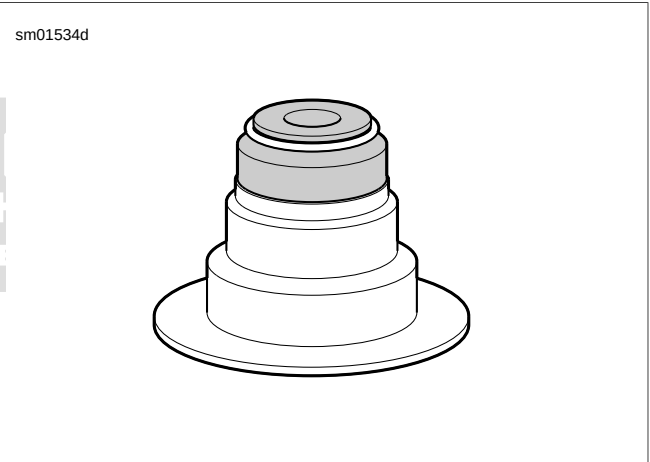

Figure 3-68. Valve Seal and Lower Valve Collar Assembly (seal and lower collar replaced as assembly only)
- See Figure 3-68. The valve seal is incorporated into the lower valve collar and is installed by hand. NO SPECIAL TOOLS ARE REQUIRED.